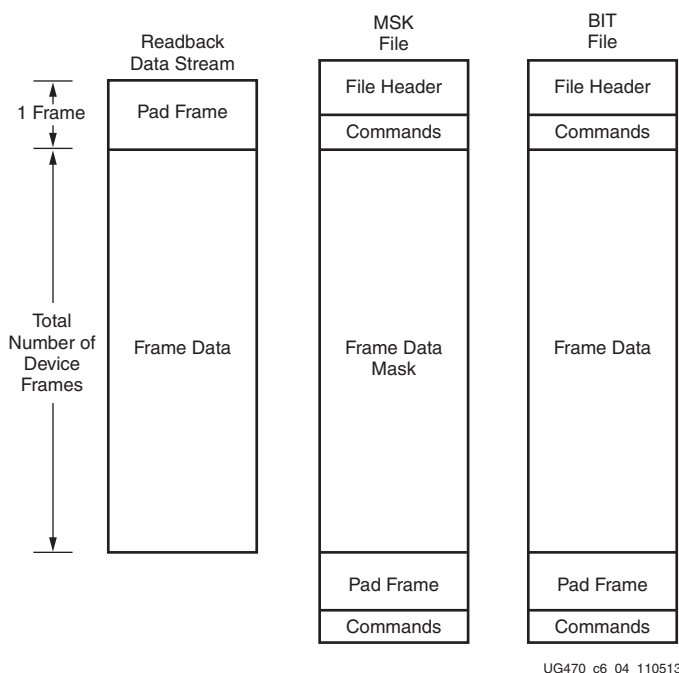

Figure 6-4: Comparing Readback Data Using the MSK and BIT Files
2. Compare readback data to the configuration BIT file, mask using the MSK file (see Figure 6-4).